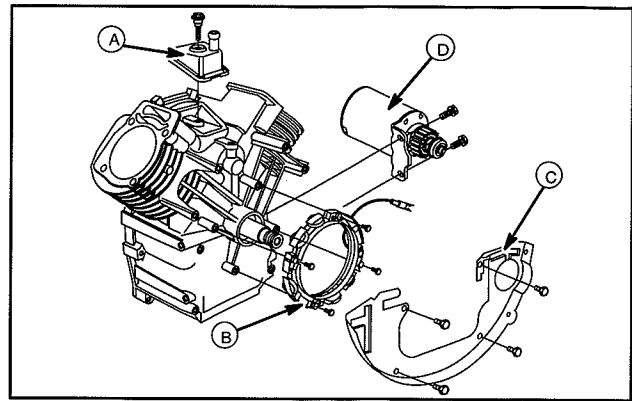

Fig. 1 – Remove Alternator, Backplate, Starter Motor
1. Remove the following parts, Fig. 1.